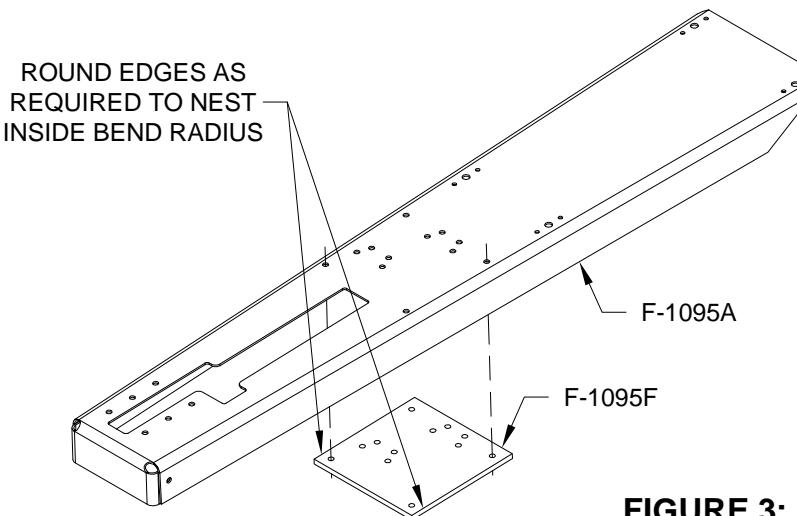

FIGURE 3:
Step 3: Fit the F-1095F Trim Servo Spacer to the underside of F-1095A Trim Mount Bracket as shown in Figure 3.
Step 4: Cleco the F-1095F Trim Servo Spacer to the F-1095A Trim Mount Bracket as shown in Figure 3. Cleco through the four corner holes in the trim servo spacer.
Step 5: Cleco the F-1095F Trim Servo Spacer to the F-1095A Trim Mount Bracket as shown in Figure 3. Cleco through F-1095G Trim Cable Anchor Bracket attach holes leaving open the four corner holes in the trim servo spacer.